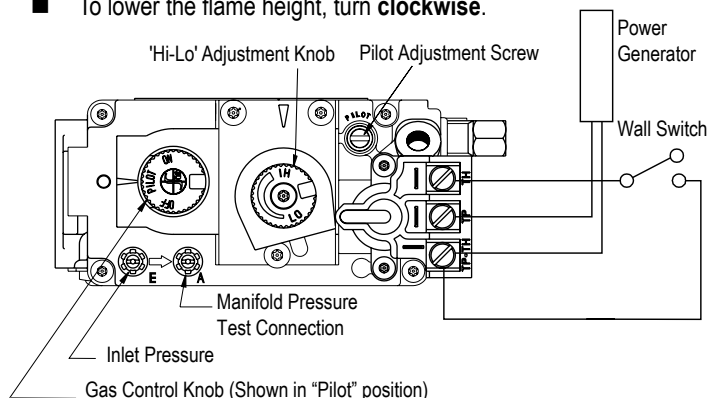

Figure 26. 'Hi-Lo' Adjustment on the SIT Nova 820 gas valve.
The L52DF* is equipped with an adjustable burner, allowing you to raise or lower the flames. To adjust the flames, locate the black knob marked 'Hi-Lo', in the centre of the gas control valve (See **Figure 26**).
1. Locate Pilot Adjustment Screw. (See **figure 26 or 27**.)
Pilot won't ignite	Disconnect remote wires and try to light pilot. If pilot now works, remote connections are faulty. Check wiring diagram figure 26 .
Main burner will not ignite	1. Check wiring (see figure 26). 2. Check wall switch for proper connection.